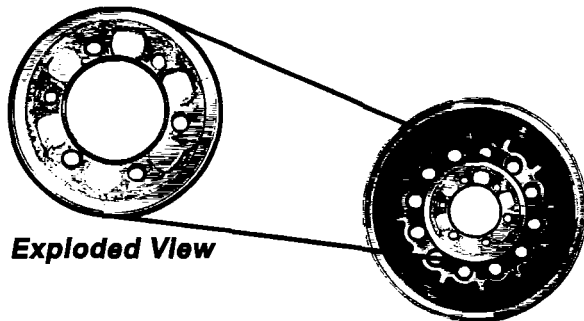

Fig. 6
1. Aluminum Rim - Apply lacquer thinner or an equivalent to the hub-mating surface with a shop rag to soften the black paint, then rub the area with a type "A" very fine Scotch-Brite® pad until clean. Allow the aluminum rim surface to completely dry (Fig. 6).